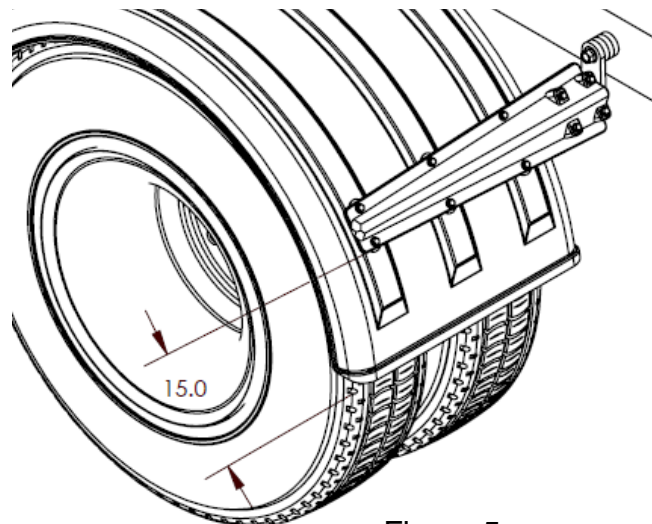

Figure 5
- C. If possible, position the mounting brackets so they are located within 15" of the bottom of the fender. This guards against wind blowing the leading edge of the fender back into the tire (Figure 5).